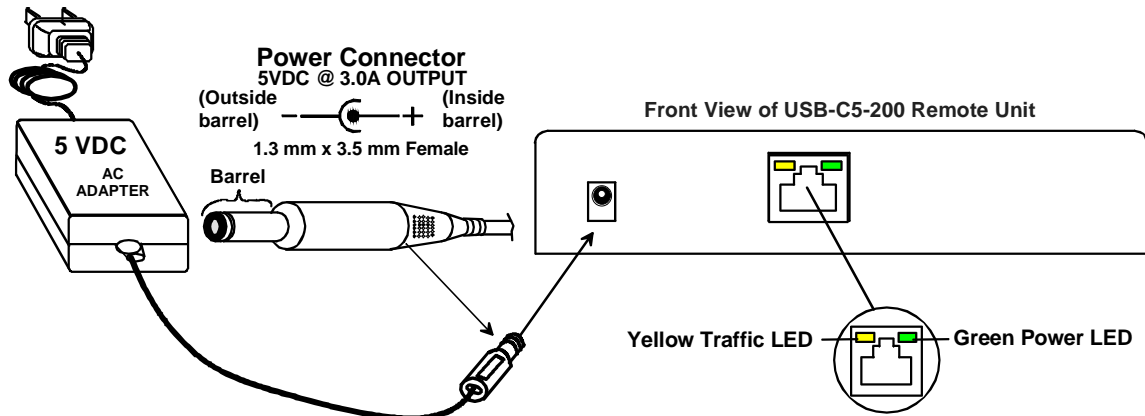

Figure 4- Connect the AC adapter
| Figure 4- Connect the AC adapter .....                     | 4 |
1. Connect the AC adapter power connector to the 5VDC port on the Remote Unit. (The Local Unit is powered by the CPU.) Plug the AC adapter into a power outlet. The green LED on the RJ45 connector of the Remote Unit should illuminate, indicating that a proper power connection has been made to it. (See Figure 4.)
**Note:** The yellow LED on RJ45 connector will blink anytime data traffic is passing between the Local and Remote Units, indicating proper CAT5 cable connection and communication. (See Figure 4)